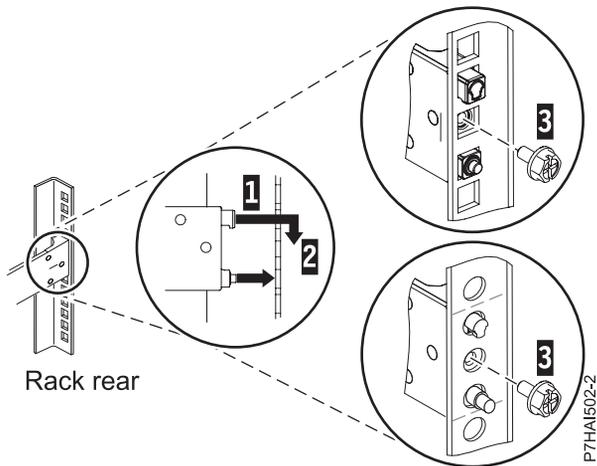

Figure 5. Aligning and engaging the pins into the holes in the rear of the rack
6. Move to the rear of the rack. Align the two pins located on the rear of the slide rail with the top and bottom holes within the selected EIA unit that were previously marked. Pull the slide rail toward you to insert the two pins into the rack holes (1), and lower the slide rail down (2) to engage the hook feature on the top pin. Install the screw (3) to secure the slide rail to the rack. For details, see Figure 5 on page 6. Ensure that the two pins protrude through the rack holes before you proceed to the next step.